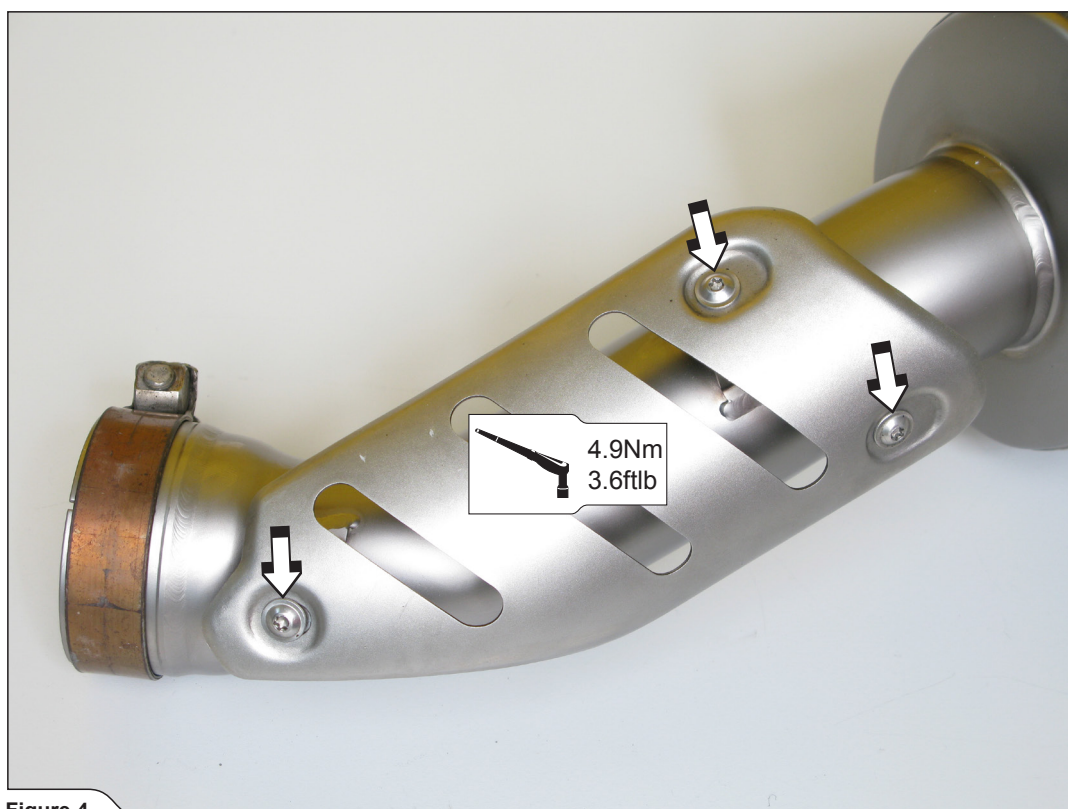

Figure 4
2. Tighten the marked bolts to a specified torque (Figure 4).